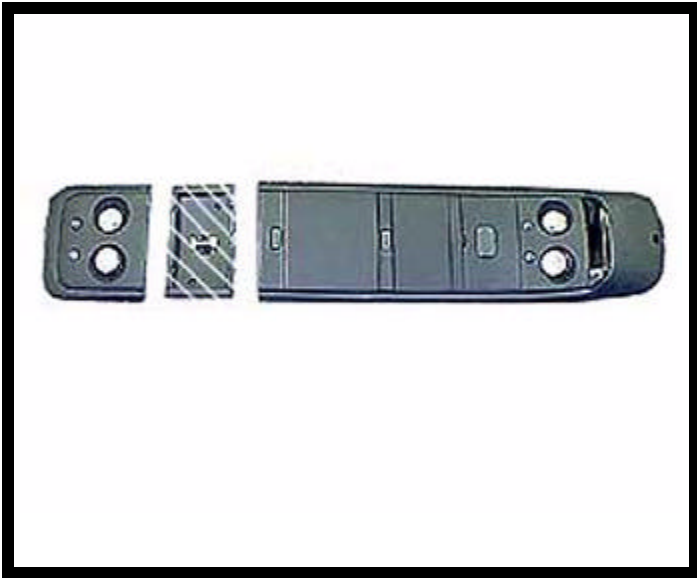

FIGURE 7
7. Mark a line on both sides of dome light as close to the edge as possible. Using a band saw or suitable tool, carefully trim console as shown. Discard dome light. **Note: If console is trimmed too far away from dome light, the trimmed edge may be visible when installed in vinyl console.** See Figure 7. Installer's option: Turn console over and place on a padded surface. Trim console along ridge on either side of dome light.